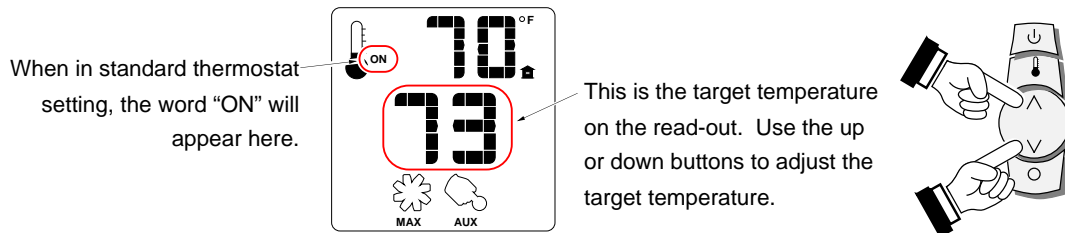

Figure 8
- STANDARD THERMOSTAT** - While in standard thermostat setting, the transmitter will turn the burner on and off to achieve the target temperature (see Figure 8 below). To adjust the target temperature, press the up and down buttons until a suitable temperature is achieved.